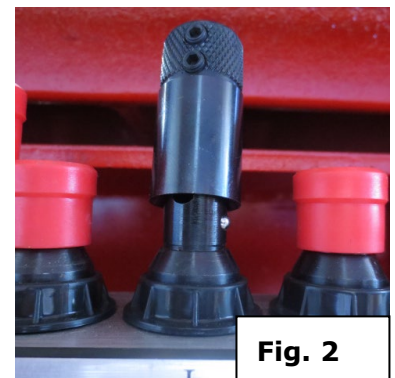

Fig. 2
- Slide the shaft of the chuck on the drill spindle. Fig. 2
3. Push the chuck all the way down onto the spindle. See Fig. 2. Rotate the chuck right and left while pushing it down, to make shure it properly engages the spindle, and ist fully seated, as shown in Fig. 3. (The roll pin inside the chuck should slide into the notch in the spindle)